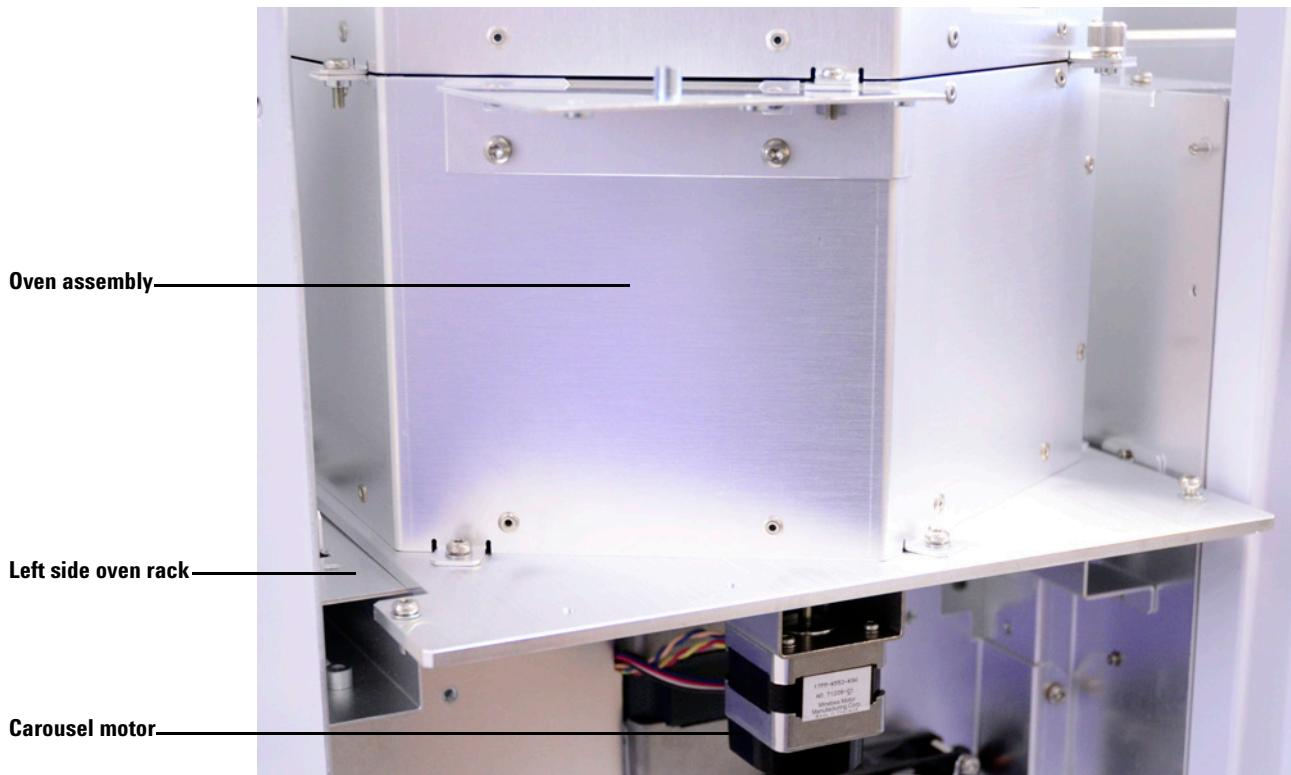

Figure 17 Front view of the oven assembly placed into the headspace sampler
- 1 Lower the oven assembly down into the headspace sampler and rest it on the oven racks so that the carousel motor faces the front as shown in Figure 17. Lay it closer towards the front than its installation location to protect your hands from injury while lowering.